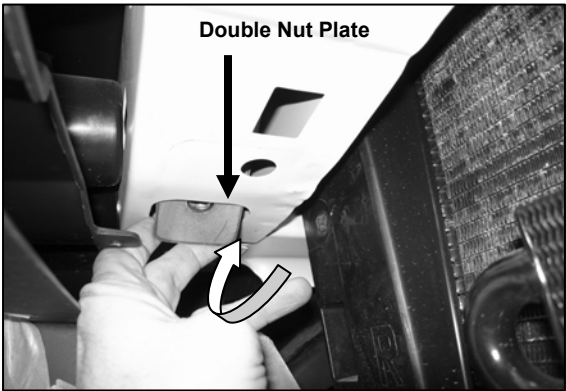

Figure 2
- Through bumper air inlet, insert passenger side Double Nut Plate through existing hole on the radiator support (Figure 2). **NOTE:** Use the larger round hole on the radiator support to insert Double Nut Plate.